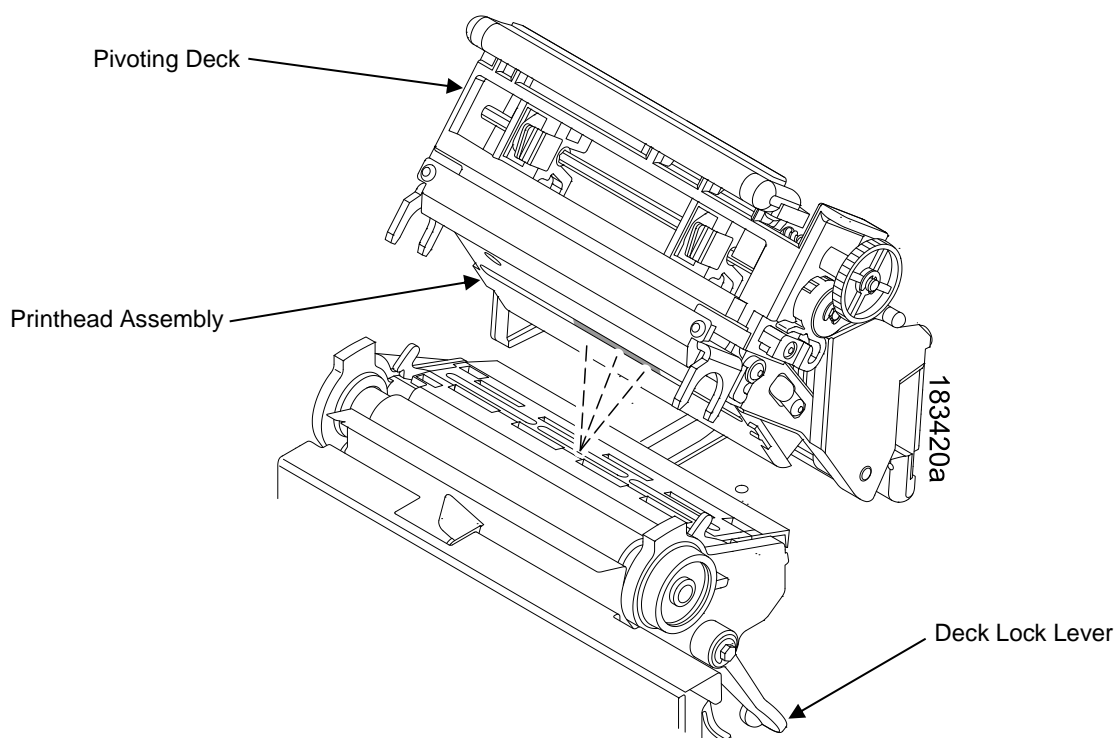

Figure 7. Opening the Pivoting Deck
3. Close the pivoting deck and rotate the deck lock lever fully counterclockwise. (Figure 7.)